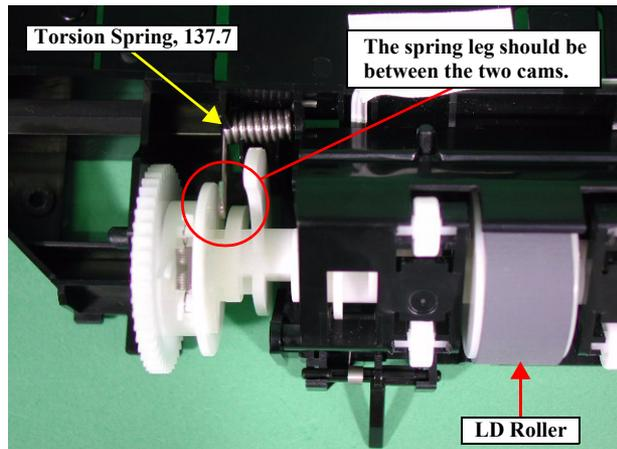

Figure 2-19. Position of Torsion Spring, 137.7
- Make sure that the leg of the Torsion Spring, 137.7 is located between the two cams of the Shaft, LD Roller as shown in Figure2-19.